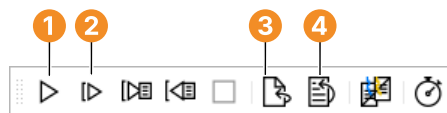

Figure 2.5: The basic execution buttons.
- Click Execute ▸ Run or click the corresponding button 1 from the tool bar (see figure 2.5).
- Click Reset Program Execution (4) to reset the program to its initial state. (see figure 2.5).
- Using the button Step Over (2) you can execute the program line by line and inspect the immediate effect of each instruction.